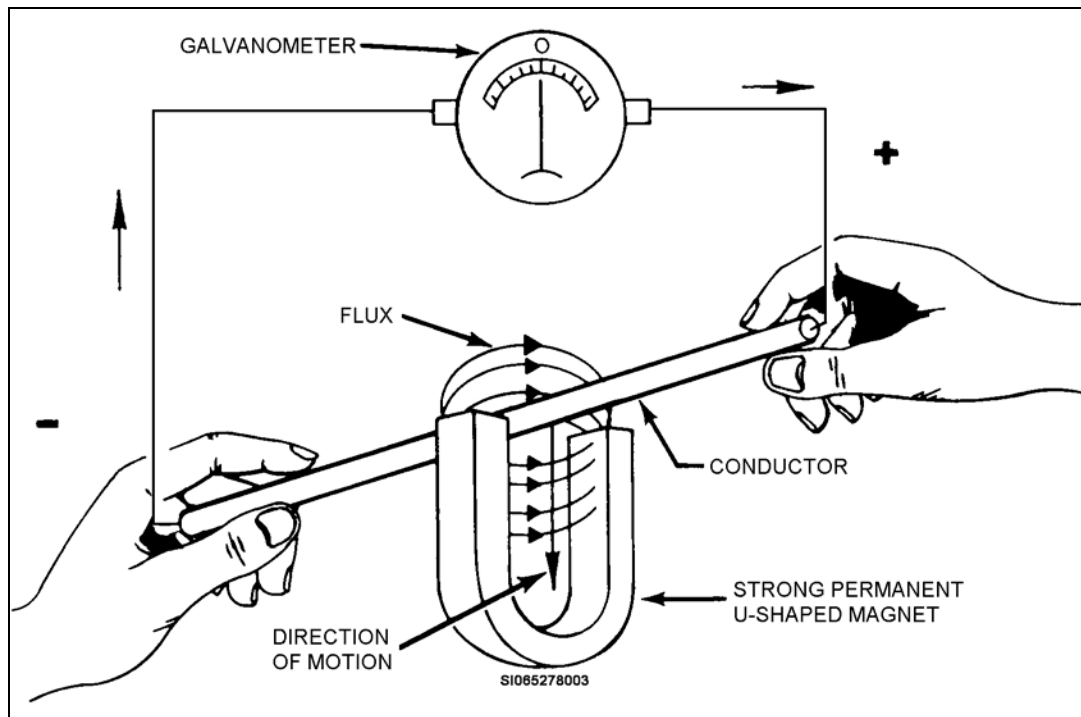
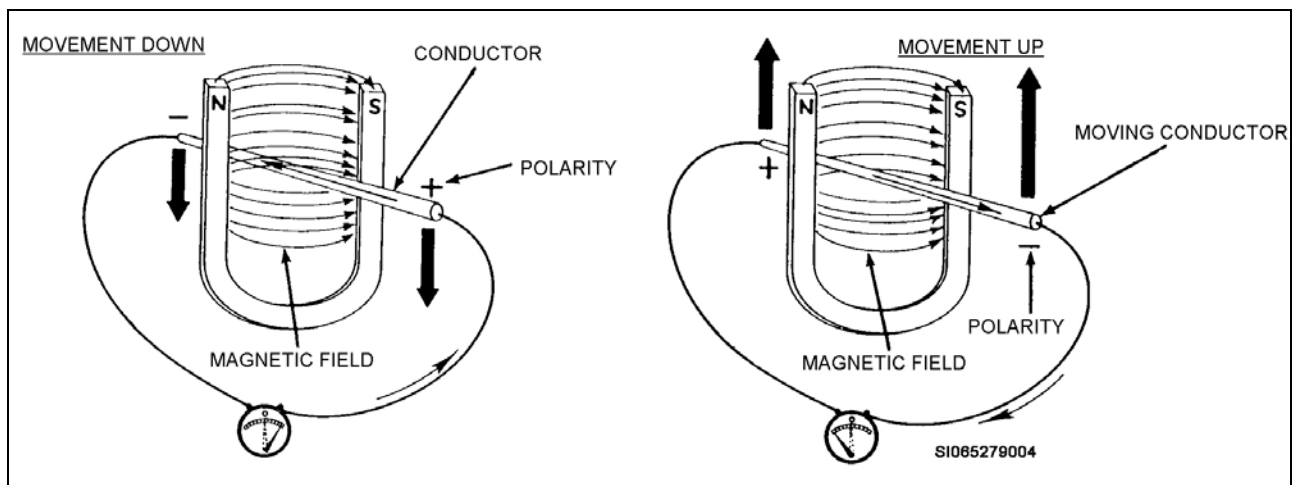

Figure 1-3. Generation action.
Figure 1-4. Voltage generation.
Practically all electricity used for domestic and industrial purposes in this country is produced by generators. A generator is a rotating machine that converts mechanical energy into electrical energy. To generate voltage mechanically, three factors are required: a magnetic field, conductors, and relative motion between the two. The relative motion causes the conductors to cut through the magnetic field. The result is voltage. The voltage moves the electrons, causing current flow (fig. 1-3). In figure 1-3 the relative motion is supplied by the person's hands who is holding the conductor. Note in figure 1-4 how the direction of the current flow changes as the conductor changes direction in the magnetic field. In the left picture in figure 1-4, the conductor is moving down and the current flow is from the negative on the left to the positive on the right. On the picture on the right hand side of figure 1-4, the conductor is moving up and the current is flowing from the negative on the right to positive on left. When the current flows, first in one direction and then in the opposite direction, we call it alternating current (AC).